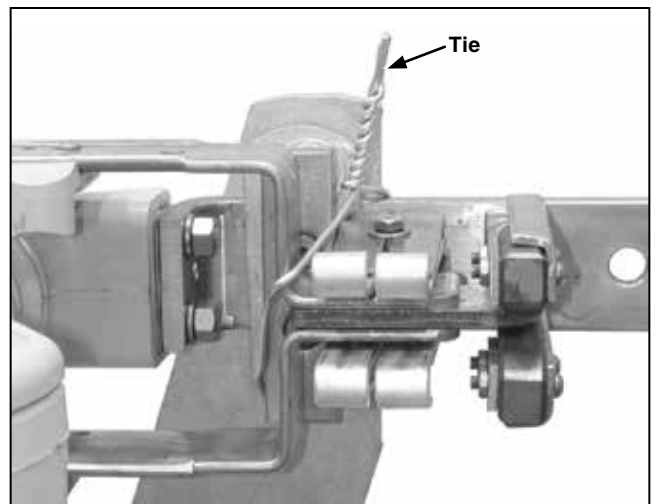

Figure 6. Tying the switch blade to the main contacts.
STEP 4. To minimize time-consuming final adjustments, make sure the switch is fully closed. Tie the switch blades to their stationary main contact assemblies. See Figure 6.